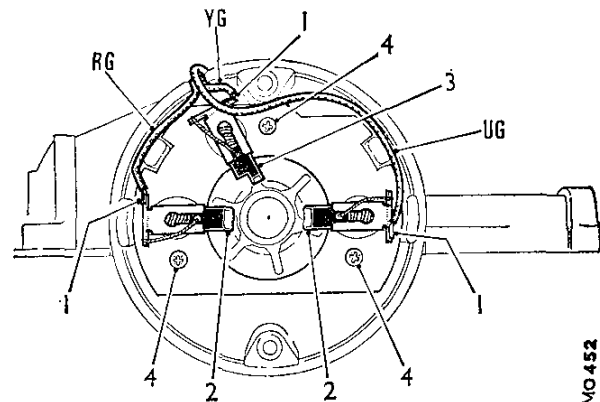

Fig. Nb.9
- (20) Examine the brush gear assembly, which must be replaced before either of the main brushes is worn to the minimum length of $\frac{3}{8}$ in. (5 mm.), or the narrow section of the third brush (two-speed models) is worn down to the full width of the brush (see Fig. Nb.9).
- (21) Check that the brushes move freely in the boxes and test the brush spring pressure with a push-type gauge. The gauge reading should be 5 to 7 oz. (140 to 200 gm.) when the bottom of the brush is level with the end of the slot in the brush box (see Fig. Nb.9). Renew the brush gear assembly if the springs are unsatisfactory.
- (22) Test the armature for open- or short-circuits. Use a mains test lamp of 110 volts and 15 watts and renew the armature if faulty.
- (23) Examine the gear wheel for damage or excessive wear. Renew if necessary.
- (24) Reverse the dismantling procedure in (13) to (19), noting the following points.
- (a) If either the brush gear or switch assembly requires replacing, unsolder the motor supply leads at the brush boxes. If a new switch is to be fitted to a single-speed motor remove the third wire, yellow and green, at the switch terminal. Use high-melting-point solder to reconnect the leads to the brush boxes, in the order shown in Fig. Nb.9, when refitting the new assembly(ies); ensure that the leads are inside the recess in the switch unit moulding when refitting it to the gearbox.